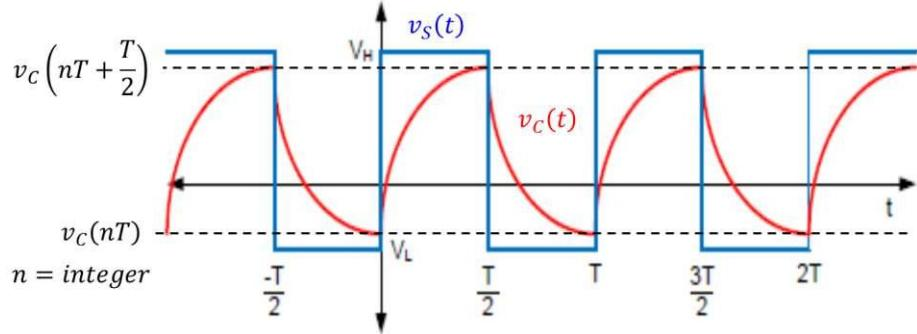

Figure 2 - RC circuit response to a square wave.
The RC circuit responds to the applied square wave voltage by charging and discharging the capacitor. This is shown in Fig. 2 with the source voltage  $v_s(t)$  shown in blue and the corresponding steady-state capacitor voltage  $v_C(t)$  shown in red. “Steady-state” is defined as the conditions reached after the natural response of the circuit has died out such that the response of the circuit to the square wave is a sustained oscillation.
Note that in Fig. 2 the capacitor is never able to either fully charge or discharge. This drawing is based on the assumption that  $T_C > T$  (the time constant of the RC circuit is greater than the period of the square waveform). If  $T_C \ll T$ , the capacitor would fully charge and discharge during each period of the waveform. Conversely, if  $T_C \gg T$ , the capacitor voltage would remain nearly constant.
The equations describing  $V_C(nT + \frac{T}{2})$  and  $V_C(nT)$  from Fig. 2, in terms of  $V_L$ ,  $V_H$ ,  $T$ ,  $R$ , and  $C$  are
3. Connect the waveform generator and the circuit to the oscilloscope. Simultaneously display 4 periods of the input square wave  $v_S(t)$  and the output voltage across the capacitor  $v_C(t)$  similar to the graph of Fig. 2.